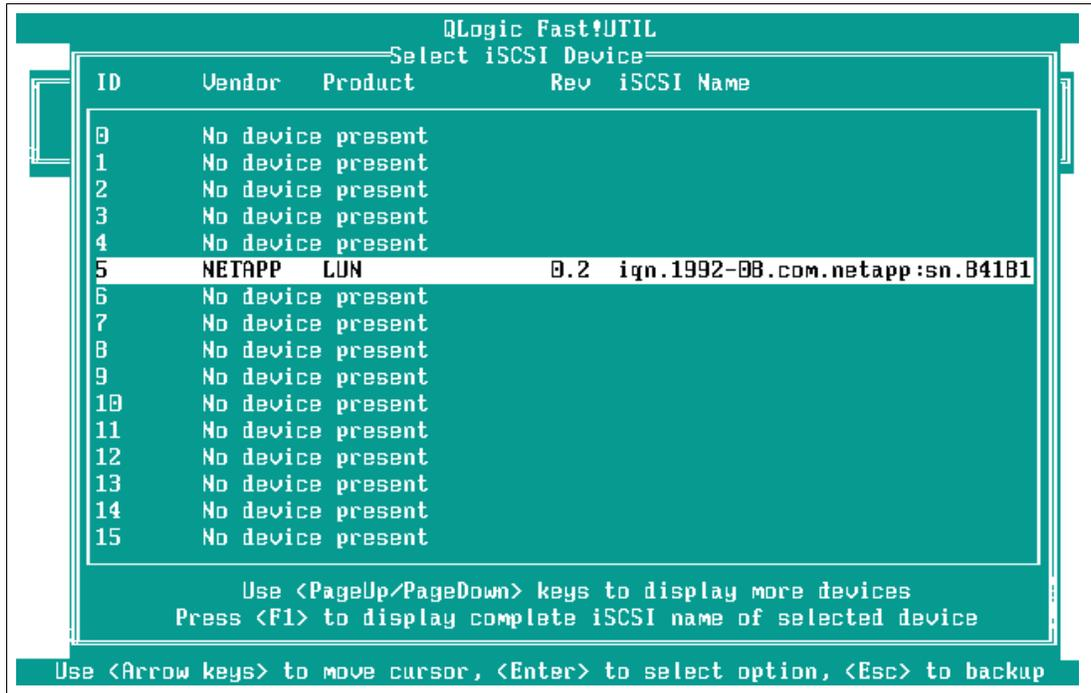

Figure 2-21 Select iSCSI Device window
15. Select **Scan iSCSI Devices** to discover the target device. You will see a window similar to Figure 2-21.